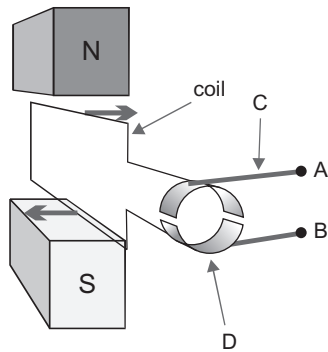

FIGURE 18.6
- 6 In the drawing of a DC motor shown in Figure 18.6, state which terminal, A or B, is made positive in order to make the coil rotate in the direction shown. Name the parts labelled C and D.